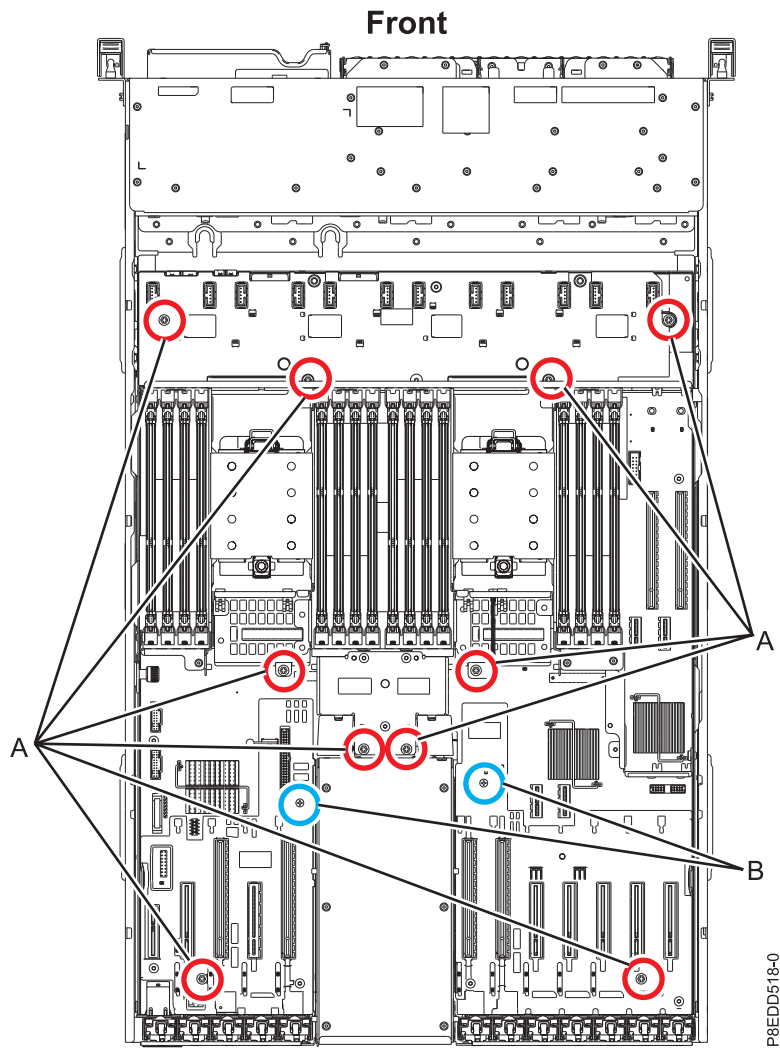

Figure 20. Location of system backplane screws
- a. Using a Phillips screwdriver, unscrew and remove 10 black screws (**A**) that mount the system backplane to the chassis as shown in Figure 20 on page 20.
- b. Using a Phillips screwdriver, unscrew and remove two silver screws (**B**) as shown in Figure 20 on page 20.